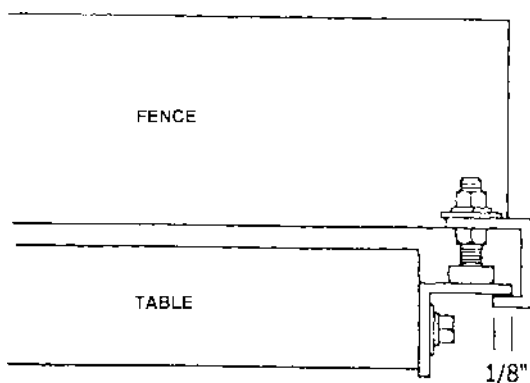

FIGURE 4
14. Check the adjustment of the hook at the back of the fence. It should be adjusted so that it overlaps the rear rail by approximately 1/8". See Figure 4.